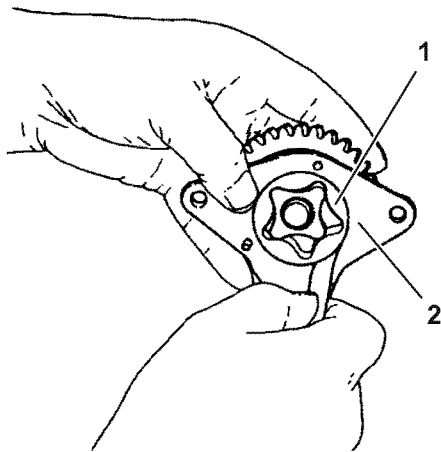

Figure 9-6
Inspect the outside diameter clearance of the outer rotor. To inspect this, insert a feeler gauge between the outer rotor (**Figure 9-6, (1)**) and the lubricating oil pump body (**Figure 9-6, (2)**).